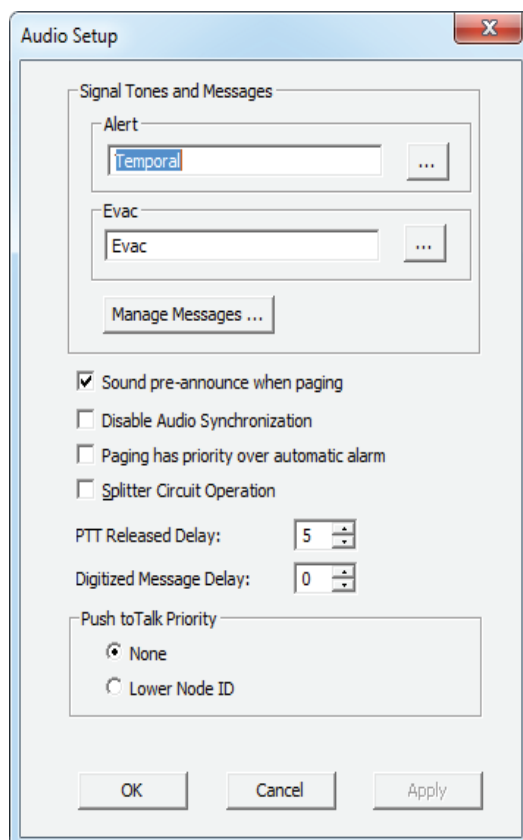

Figure 72 Audio Setup
1. In the **Audio Setup** window (Figure 72), click the ... button beside **Alert 1** or **Evac**.